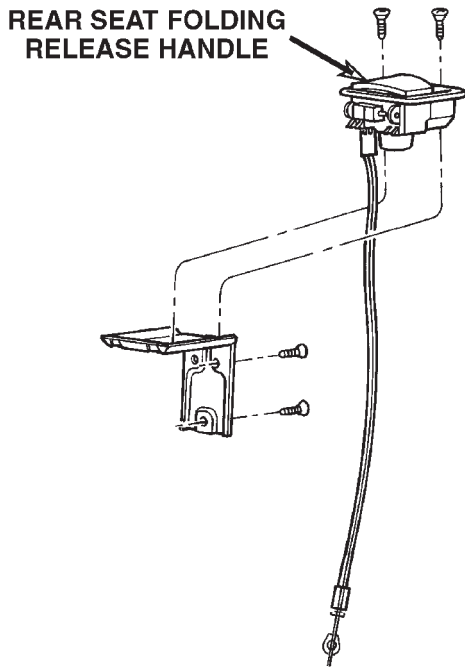

Fig. 11 Rear Seat Release Handle
- (3) Using a small flat blade, disengage retainers securing latch release cable housing to latch release handle.
- (4) Rotate cable end until barrel end aligns with key hole slot in latch release handle.
- (5) Disengage cable barrel end from release handle.
- (6) Separate latch release handle from seat back (Fig. 11).